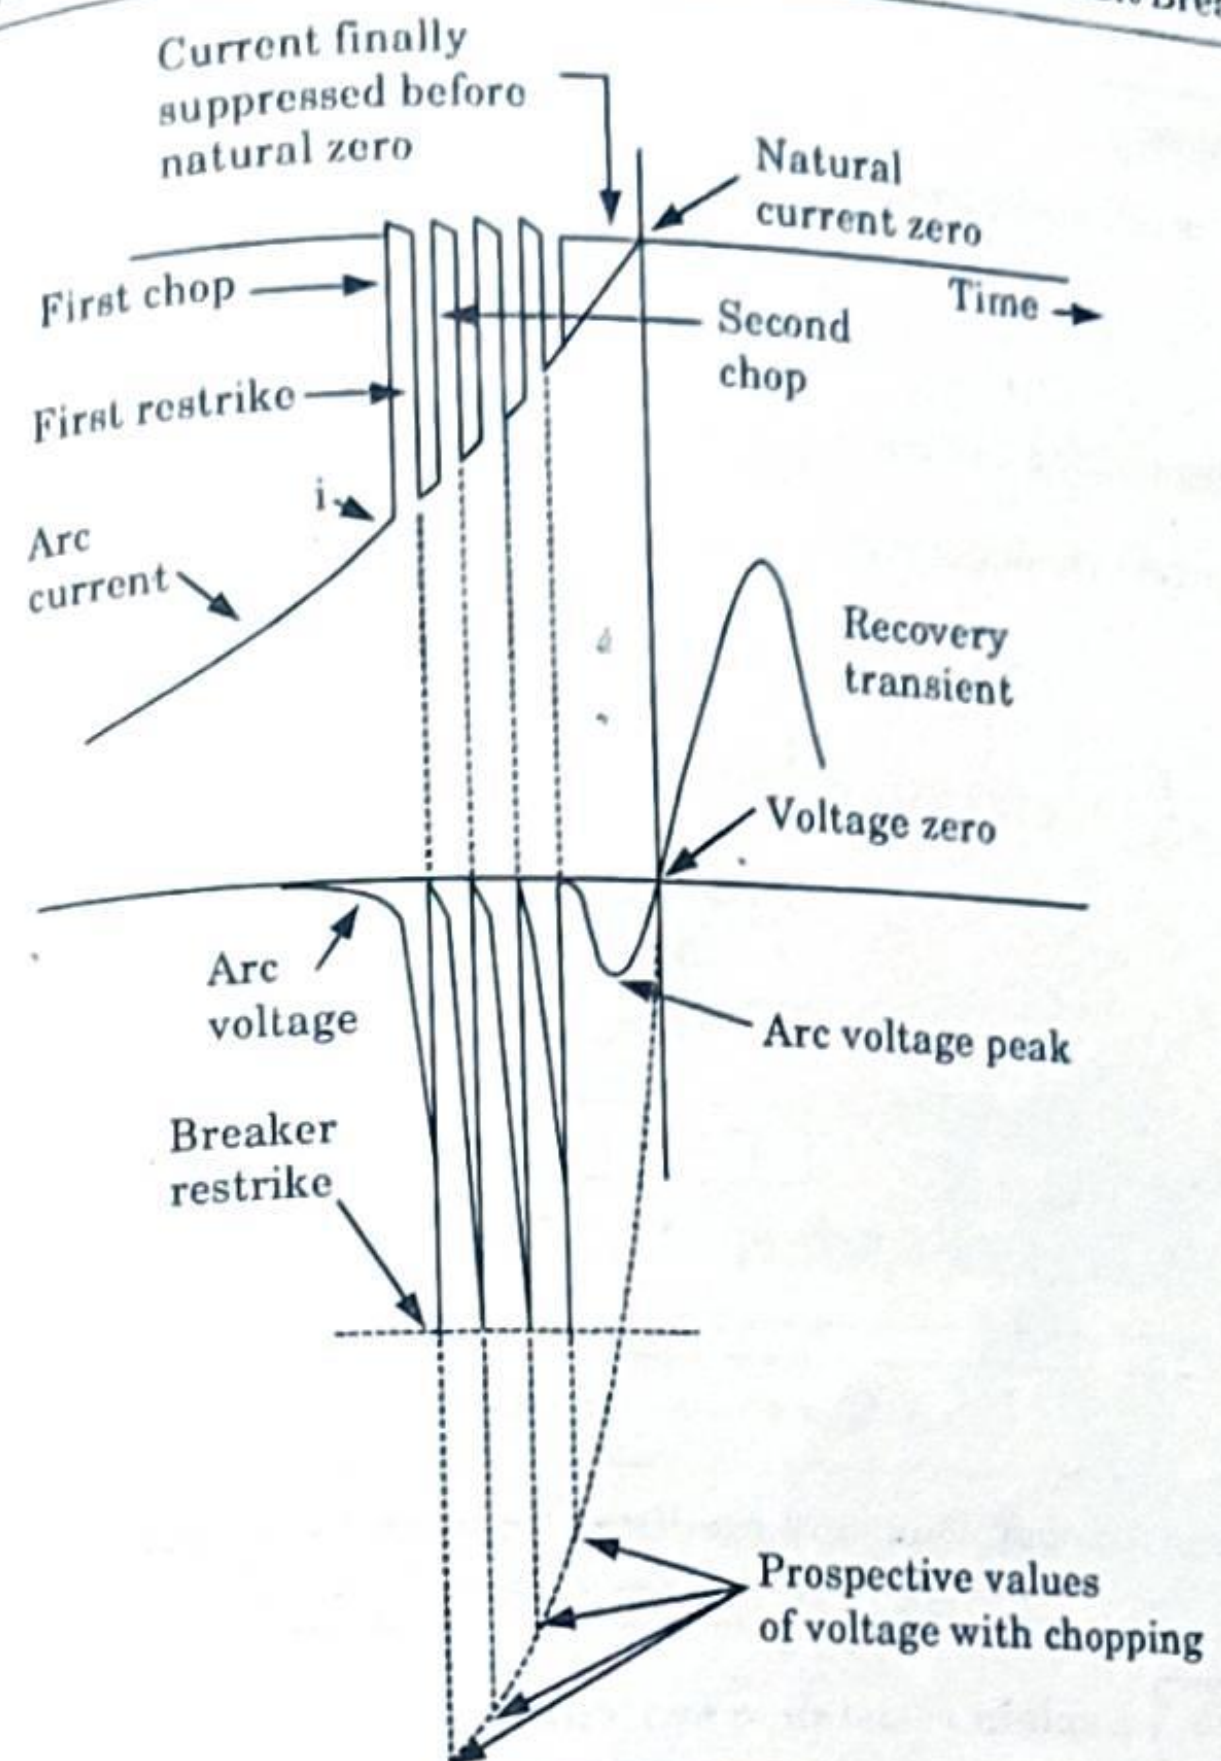

Fig. 4.11.2.
- Thus a sequence of chops will occur and arc will continuously decrease until a final chop brings arc current to zero. There will not be any further restriking as the gap is almost deionized. This is shown in Fig. 4.11.2.